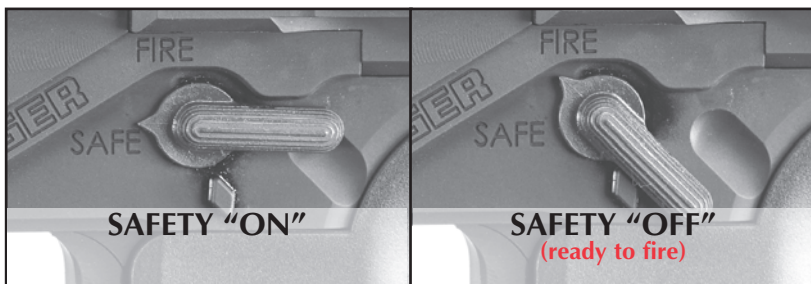

Figure 4
The manual safety mechanism on the **RUGER PRECISION RIFLE™** is located on the left side of the lower receiver rearward of the trigger. The safety selector switch can be moved from the “FIRE” position to the “SAFE” position only when the firing pin is cocked. (Fully raising the bolt handle cocks the firing pin.) The safety selector switch is “on” when it is in a fully horizontal position pointing to the word “SAFE.” (See Figure 4, p. 11.) When the safety is on “SAFE,” it blocks the trigger. The “FIRE” position is reached by rotating the lever towards a vertical position. The lever will stop when the pointer reaches the word “FIRE.”
2. Position the safety selector switch in the “SAFE” position (see Figure 4, p. 11).
10. Position the safety selector switch in the “SAFE” position (see Figure 4, p. 11). Note that cocking the firing pin by lifting the bolt handle is required to allow the rifle to enter the “SAFE” mode.
8. Position the safety selector switch in the “SAFE” position (see Figure 4, p. 11).